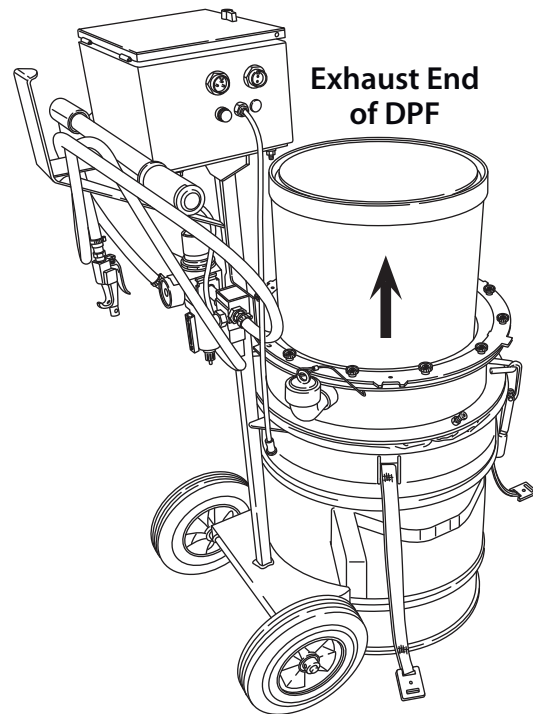

Figure 4
1. Carefully place and center the DPF into the stretch Neoprene Ring Seal with the exhaust exit end in the upward position. (Figure 4)